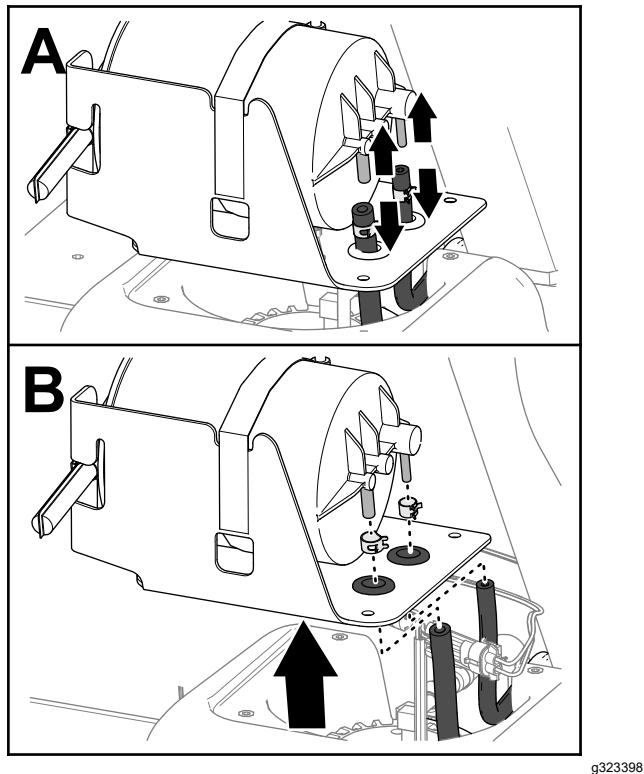

Figure 117
4. Separate the hoses from the fittings (Figure 117).
5. Remove the hose clamps from the hoses (Figure 117).
6. Remove the carbon canister from the fuel tank (Figure 117).